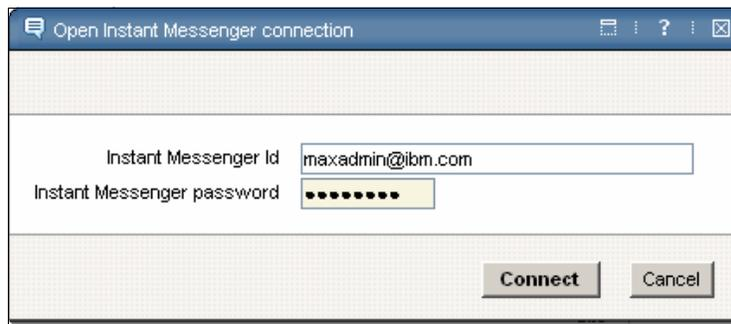

Figure 7-11 Enter the password for the IM application
3. Enter the password for the IM application, as shown in Figure 7-11.